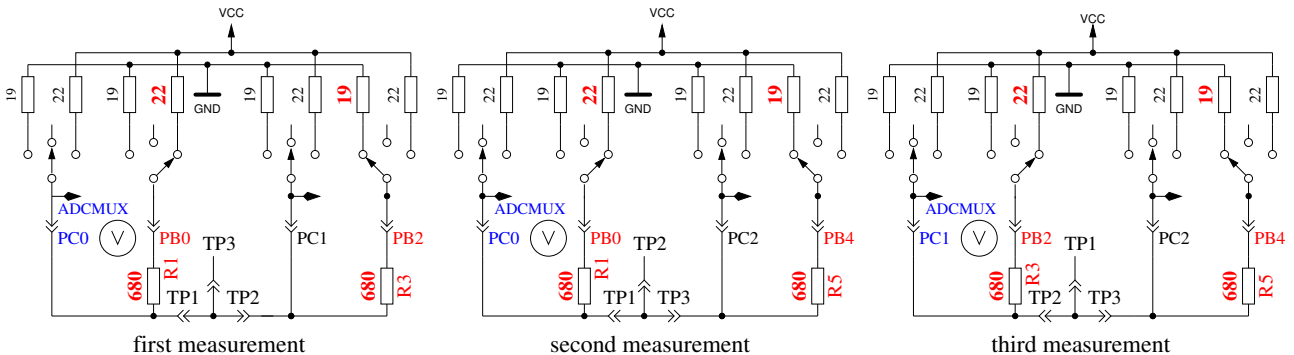

Figure 5.39: Comparison of 680Ω resistors
2. **Comparing of the 680Ω resistors.** In row 1 the cryptic text “+RL- 12 13 23” is shown. Meaning of this is as follows: The RL is the short form of Resistor Low meaning the 680Ω resistors. The 12 stand for: resistor at pin 1 is connected to VCC (+) and resistor at pin 2 is connected to GND (-). The result of this measurement is displayed in row 2 at the first place as difference to the theoretical value. In row 1 follows now a “13” which means, that the first connection of measurement 1 is still connected with 680Ω to VCC but that the resistor of pin 3 is connected to GND. The result is displayed in the middle place of row 2 as difference to the theoretical value. The last measurement of this test “23.” means that now the resistor at pin 2 is connected to VCC (+) and the resistor of pin 3 is connected to GND. The result of measurement is displayed at the last place of LCR row 2 as difference to the theoretical value. Please remember, that the resolution of the ADC is about 4.88mV! The measurement situation is also shown in figure 5.39. The theoretical value with respect to the internal resistance of the pins should be:  $\frac{5001 \cdot (19+680)}{(19+680+680+22)} = 2493$ .